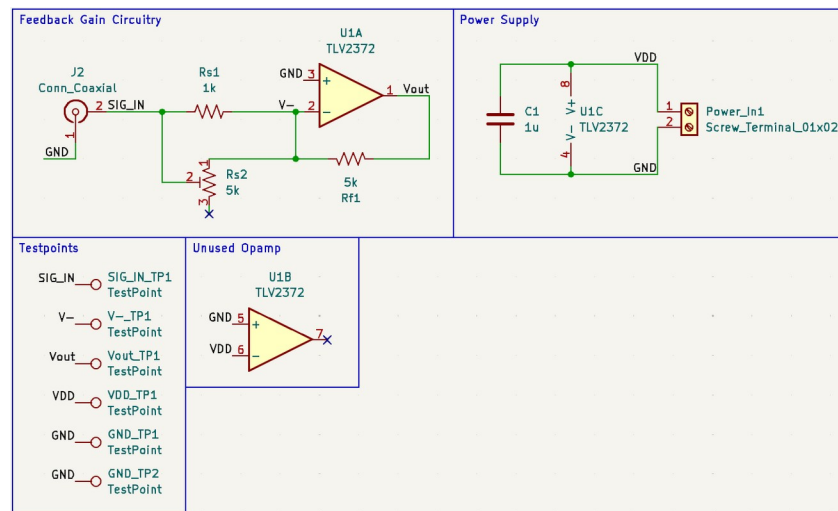

Figure 22 – PCB Schematic
The schematic you will be replicating can be found in Figure 22.
3. Place the components found in figure 22